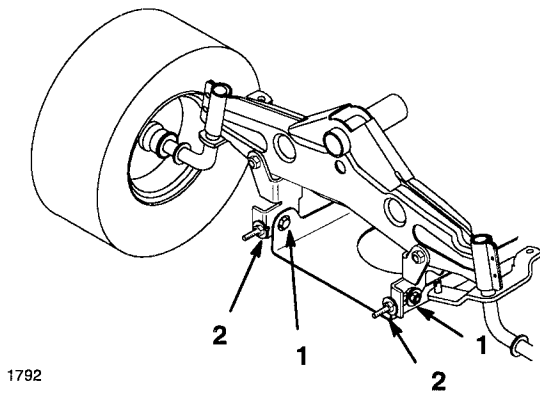

Figure 53
5. To adjust front-to-rear blade slope loosen front pivot plate mounting bolts slightly (Fig. 53).
6. Rotate locknuts on eyebolts to change adjustment (Fig. 53). To raise the front of the mower tighten the eyebolt locknuts. To lower the front of the mower loosen the eyebolt locknuts.
7. After adjusting both eyebolt locknuts evenly, check the front-to-rear slope again. Continue adjusting eyebolts until the front blade tip is 0-3/8" (0-9.2 mm) lower than the rear blade tip (Fig. 53).
8. When front-to-rear slope is correct, tighten the pivot plate mounting bolts (Fig. 53).